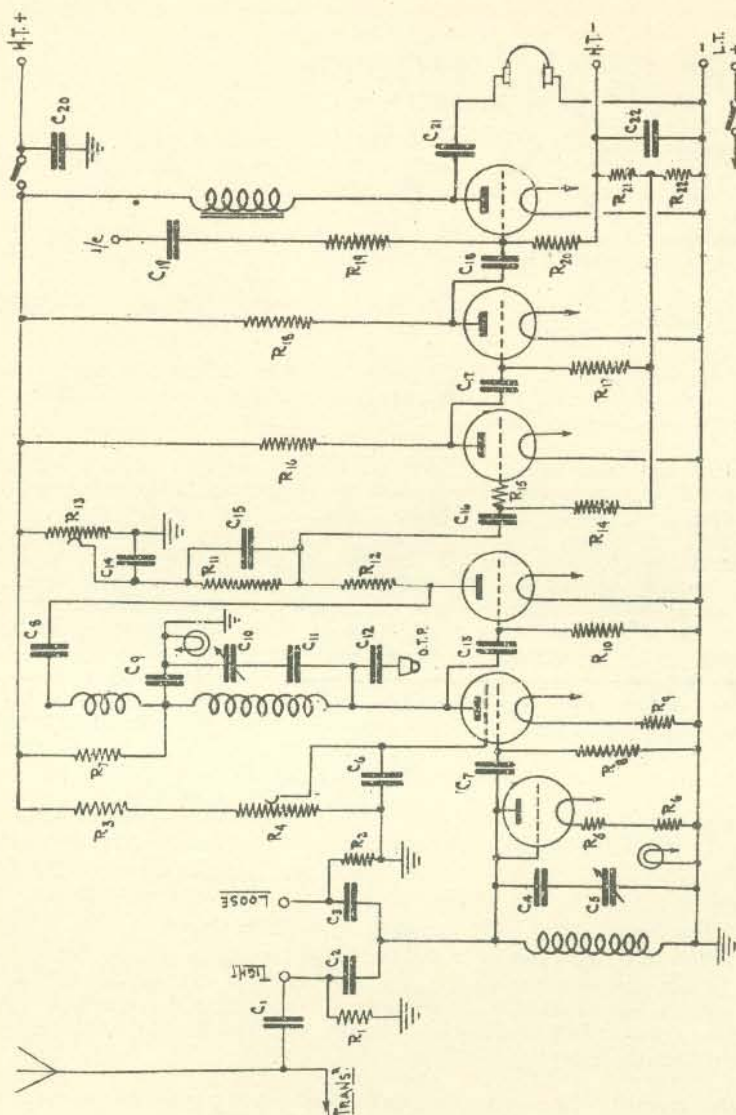
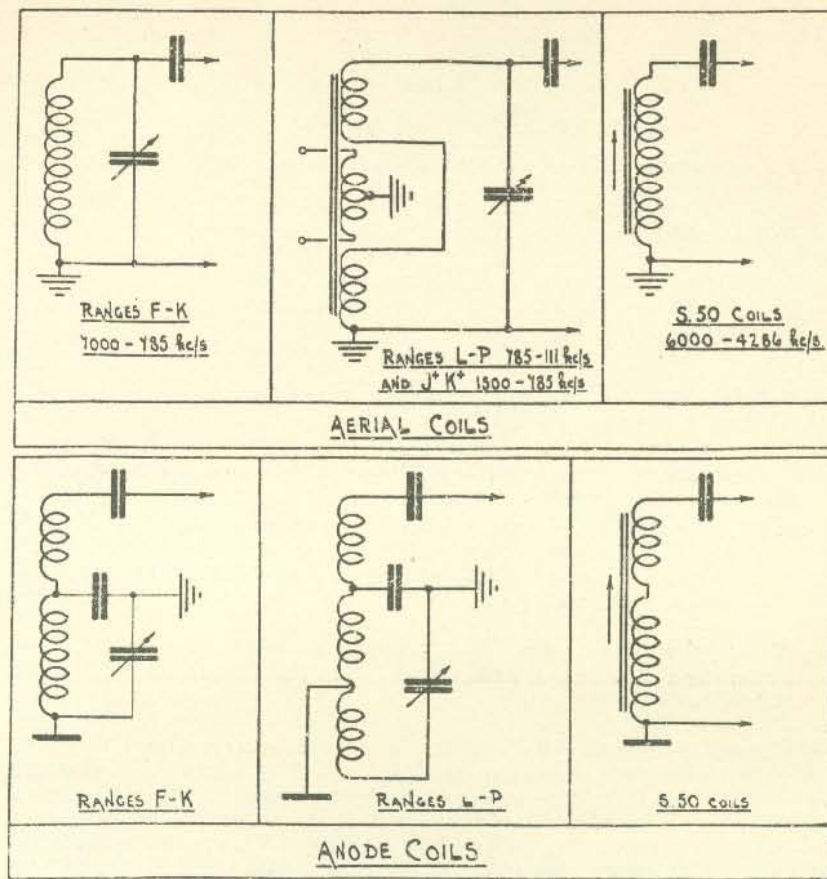
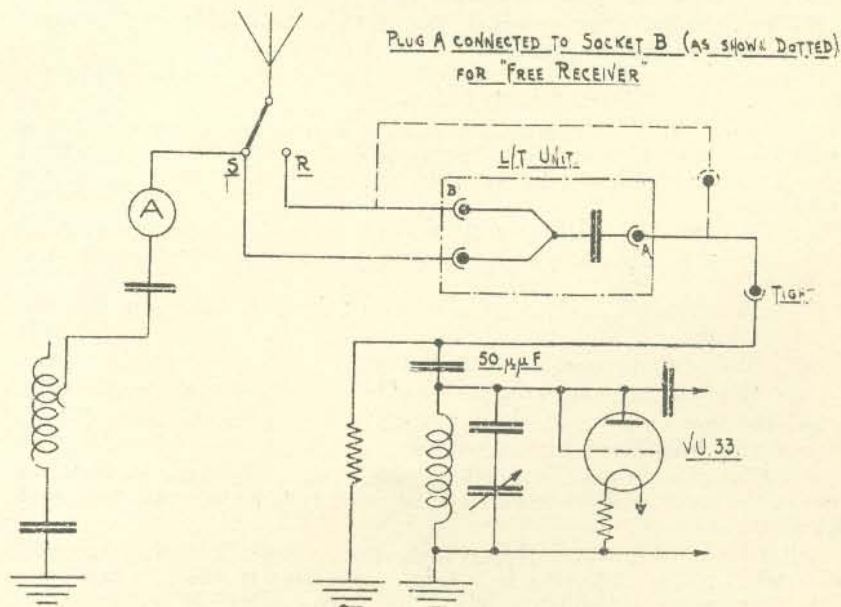

Fig. 67.—Receiver R.1082.
FIG. 68—Coils for R.1082 (ranges A-E (15-7 mc/s) shown in Fig. 67).
FIG. 69.—"Listening through" circuits (R.1082-T.1083).
6. Circuit (see fig. 67).—Circuit changes are effected by plug-in coils in aerial and anode circuits (fig. 68). The "limiter" valve is a triode wired to operate as a diode, shunted across the input circuit and biased slightly negative. Because of this bias it will have no effect on normal signals, but when using "listening through" arrangement (fig. 69) (i.e. when T.1083 and R.1082 are coupled to the same aerial) it prevents damage to the R.F. valve or circuits from the very large input from the transmitter. When the transmitter key is pressed, large voltages start to build up across the R.1082 aerial coil. The limiter valve becomes conductive as soon as these voltages exceed its fixed bias, and it shunts the input circuit.
(vii) Another external component is the high voltage "listening-through" condenser (fig. 69). The plug and socket connection to the L.T. condenser permits either "listening-through" or "free receiver" operations. "Listening-through" (possible when transmitter and receiver use the same